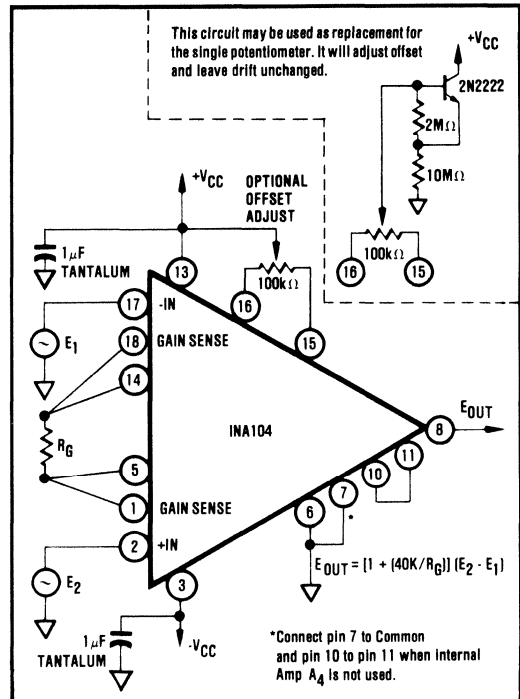
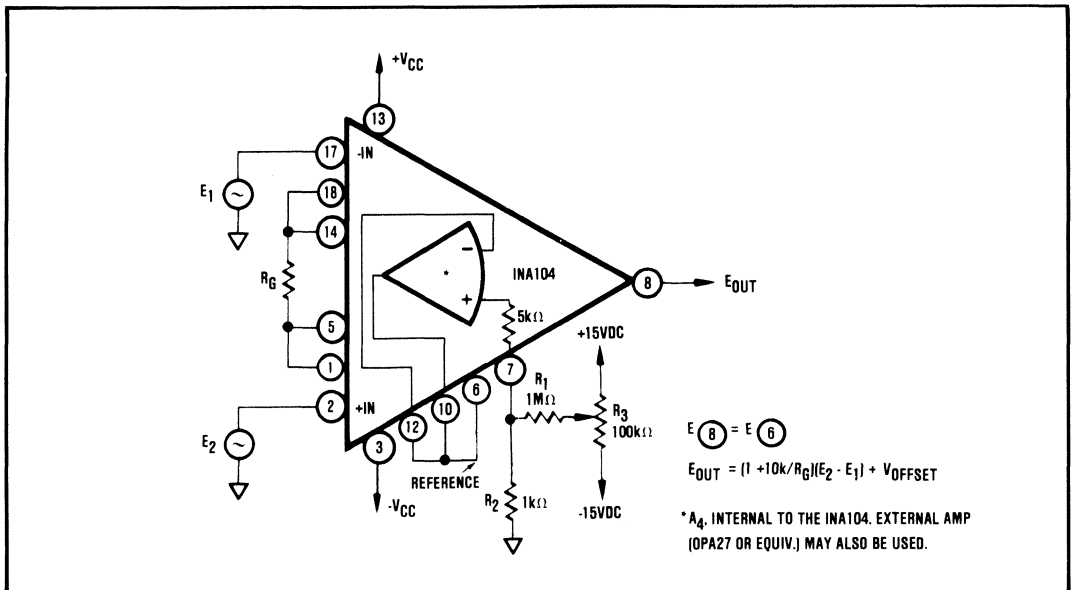
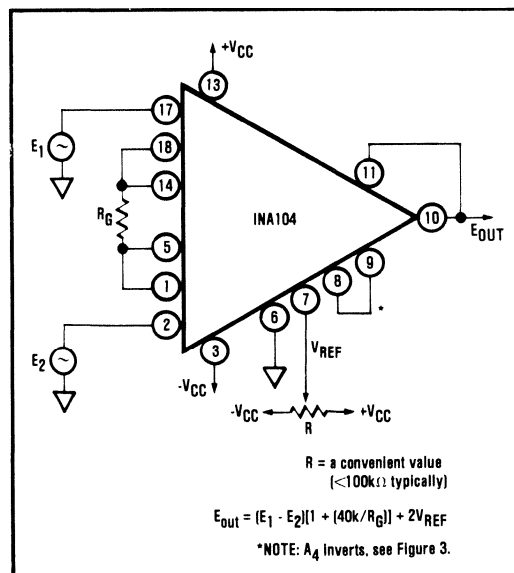

FIGURE 1. Basic Circuit Connection for the INA104 Including Optional Input Offset Null Potentiometer.
FIGURE 2. Optional Output Offset Nulling or Offsetting Using an Amplifier (Low Impedance to Pin 6).
FIGURE 4. Output Offsetting.
At $+25^{\circ}C$, $\pm V_{CC} = 15VDC$, and in circuit of Figure 1 unless otherwise specified.
Figure 1 shows the simplest configuration of the INA104. The gain is set by the external resistor, R_G , with a gain equation of $G = 1 + (40K/R_G)$. The reference and TCR of R_G contribute directly to the gain accuracy and drift.
The optional offset null capability is shown in Figure 2. The adjustment affects only the input stage component of the offset voltage. Thus, the null condition will be disturbed when the gain is changed. Also, the input drift will be affected by approximately $0.31\mu V/^{\circ}C$ per $100\mu V$ of input offset voltage that is trimmed. Therefore, care should be taken when considering use of the control for removal of other sources of offset.
It is frequently desirable to null the input component of offset (Figure 1) and occasionally that of the output
(Figure 2). The quality of the potentiometer will affect the results, therefore, choose one with good temperature and mechanical-resistance stability. The procedure is as follows:
3. Adjust to 100Ω potentiometer in Figure 1 until the output reads $0V \pm 1mV$ or desired setting. Note that the offset will change when the gain is changed. If the output component of offset is to be removed or if it is desired to establish an intentional offset, adjust the $100k\Omega$ potentiometer in Figure 2 until the output reads $0V \pm 1mV$ or desired setting. Note that the offset will not change with gain, but be sure to use a stable external amplifier with good DC characteristics. The range of adjustment is $\pm 15mV$ as shown. For larger ranges change the ratio of R_1 to R_2 . The op amp is used to maintain a low resistance ($<0.1\Omega$) from pin 6 to Common to avoid CMR degradation.
The basic circuit connection for the INA104 is shown in Figure 1. The output voltage is a function of the differential input voltage times the gain.
Figure 1 does not include additional internal op amp A_4 . Power supply bypassing with a $1\mu F$ tantalum capacitor or equivalent is always recommended.
with most other IC instrumentation amplifiers as shown in Figure 4. The use of the extra internal op amp, A_4 , means that CMR of the instrument amp is not disturbed, and that a convenient value of variable resistor can be used. The circuit shown in Figure 2 can also be used to achieve the desired offsetting by scaling the resistors R_1 and R_2 . A low impedance path from pin 6 to Common should be provided to achieve the high CMR specified. Resistance above 0.1Ω will cause the CMR to fall below 106dB.